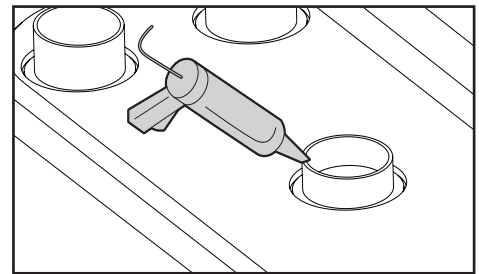

FIGURE 3. Apply construction adhesive to bathtub feet.
- b. Apply construction adhesive to all feet and install bathtub into alcove (Fig 3).